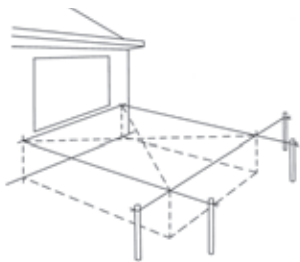

Fig 1 Position the deck, layout with string line and check for square by measuring the diagonals.
■ Mark out your deck and the desired floor height using string lines (Fig 1). Check for square by measuring the diagonals (Fig 1) - They must be equal in length and the sides must also be equal and parallel. You don't want to discover your deck is not square further down the track!